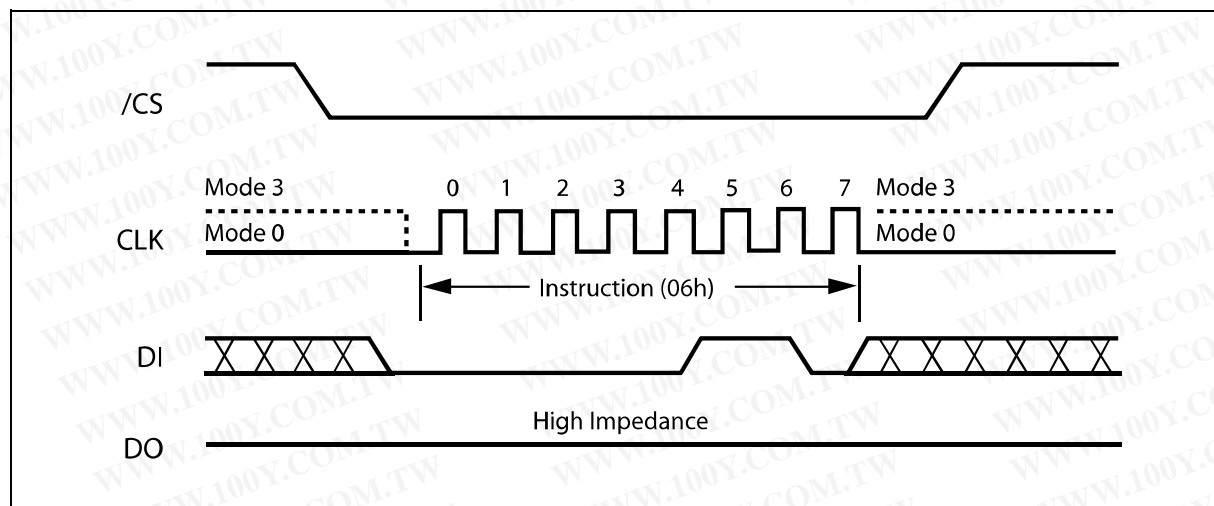

Figure 4. Write Enable Instruction Sequence Diagram
Instructions vary in length from a single byte to several bytes and may be followed by address bytes, data bytes, dummy bytes (don't care), and in some cases, a combination. Instructions are completed with the rising edge of edge /CS. Clock relative timing diagrams for each instruction are included in figures 4 through 32. All read instructions can be completed after any clocked bit. However, all instructions that Write, Program or Erase must complete on a byte boundary (/CS driven high after a full 8-bits have been clocked) otherwise the instruction will be terminated. This feature further protects the device from inadvertent writes. Additionally, while the memory is being programmed or erased, or when the Status Register is being written, all instructions except for Read Status Register will be ignored until the program or erase cycle has completed.
The Write Enable instruction (Figure 4) sets the Write Enable Latch (WEL) bit in the Status Register to a 1. The WEL bit must be set prior to every Page Program, Sector Erase, Block Erase, Chip Erase and Write Status Register instruction. The Write Enable instruction is entered by driving /CS low, shifting the instruction code "06h" into the Data Input (DI) pin on the rising edge of CLK, and then driving /CS high.